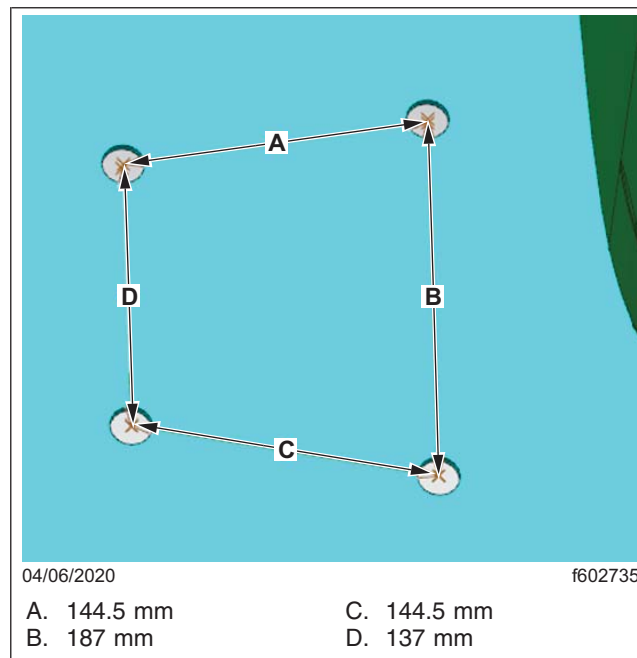

Fig. 4, Push Nut Hole Dimensions
5. Drill four holes of 20 mm each through the marked points on the floor mat as shown in **Fig. 4**.